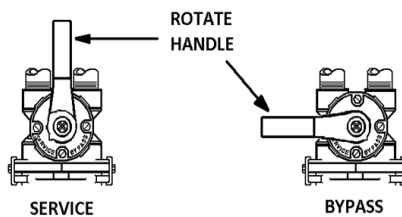

FIGURE 4: Bypass Valve
- STEP 12:** **MAKE SURE THE BYPASS VALVE IS IN THE "BYPASS" POSITION** (Figure 4, Page 5) and open the main supply valve or turn on power to the pump on private well systems.
- STEP 14:** Refer to Figure 4 on page 5 for appropriate bypass valve operation. Rotate bypass lever of stainless steel bypass $\frac{1}{4}$ of the way to Service allowing unit to fill slowly. **IMPORTANT: Activated Carbon, Filter Ag and Birm must be soaked for at least 2 hours prior to submitting it to full flow rate to prevent loss of media to drain.**